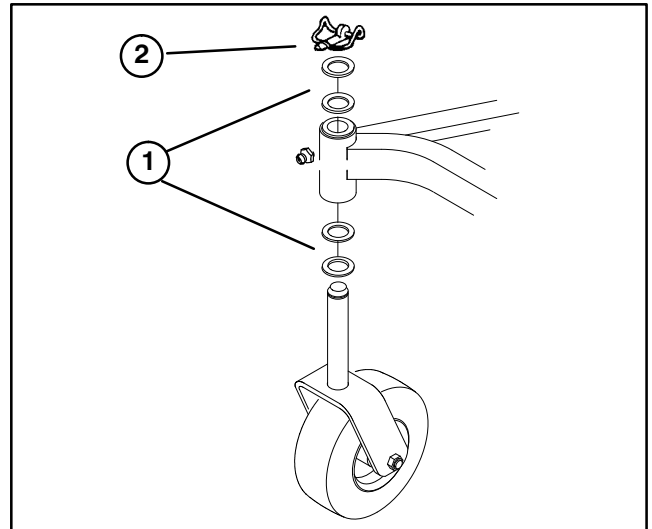

Figure 32
A. Cutting units usually operated at 1 to 2 in. height-of-cut should have the low side of the cutting unit raised. Remove the lynch pin securing castor wheel on low end (Fig. 32) and remove castor assembly.
B. Transfer one thrust washer from top side of castor shaft to lower side, install castor assembly and compare blade height of all blades; refer to items 3 through 7. Continue adding thrust washers if height still does not meet requirements.
C. If cutting unit is operated at 2 to 4 in. height-of-cut, lower the high side of cutting unit. Remove lynch pin of castor at high end of unit and remove castor assembly (Fig. 32).
D. Transfer one thrust washer from lower side of castor shaft to top side, install assembly and compare blade height of all blades; refer to items 3 through 7. Repeat procedure if height still does not meet requirements.